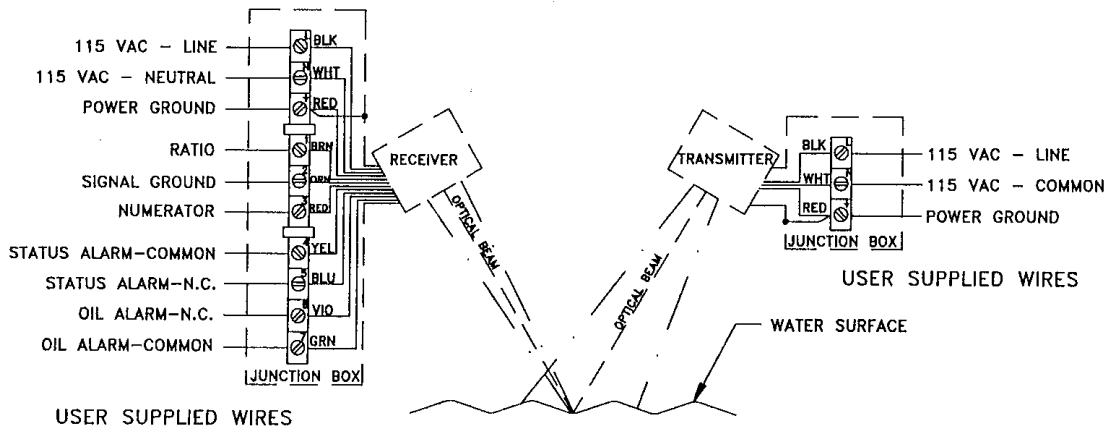

Figure 7—System Interwiring Diagram
2. Connect external wiring as shown in Figure 7.